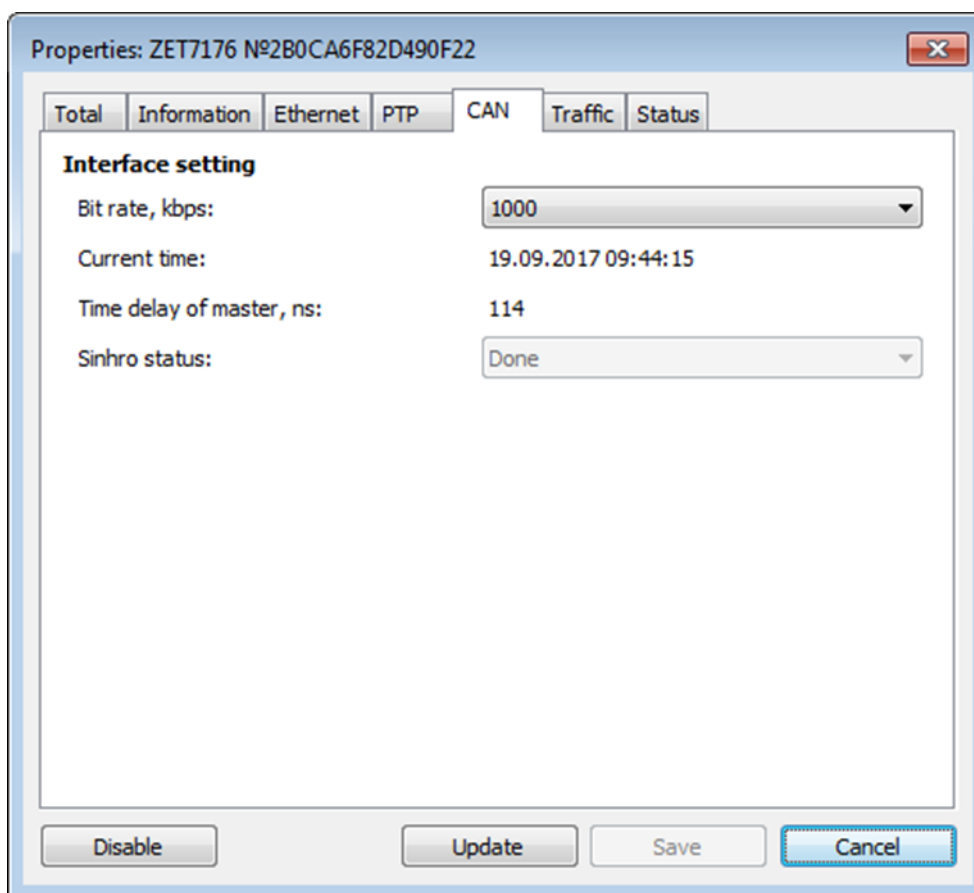

Figure 2.8 «CAN» tab.
- Select the bit rate in accordance with the applicable requirements in the “Bit rate, kbps” field of “CAN” tab (Figure 2.8).